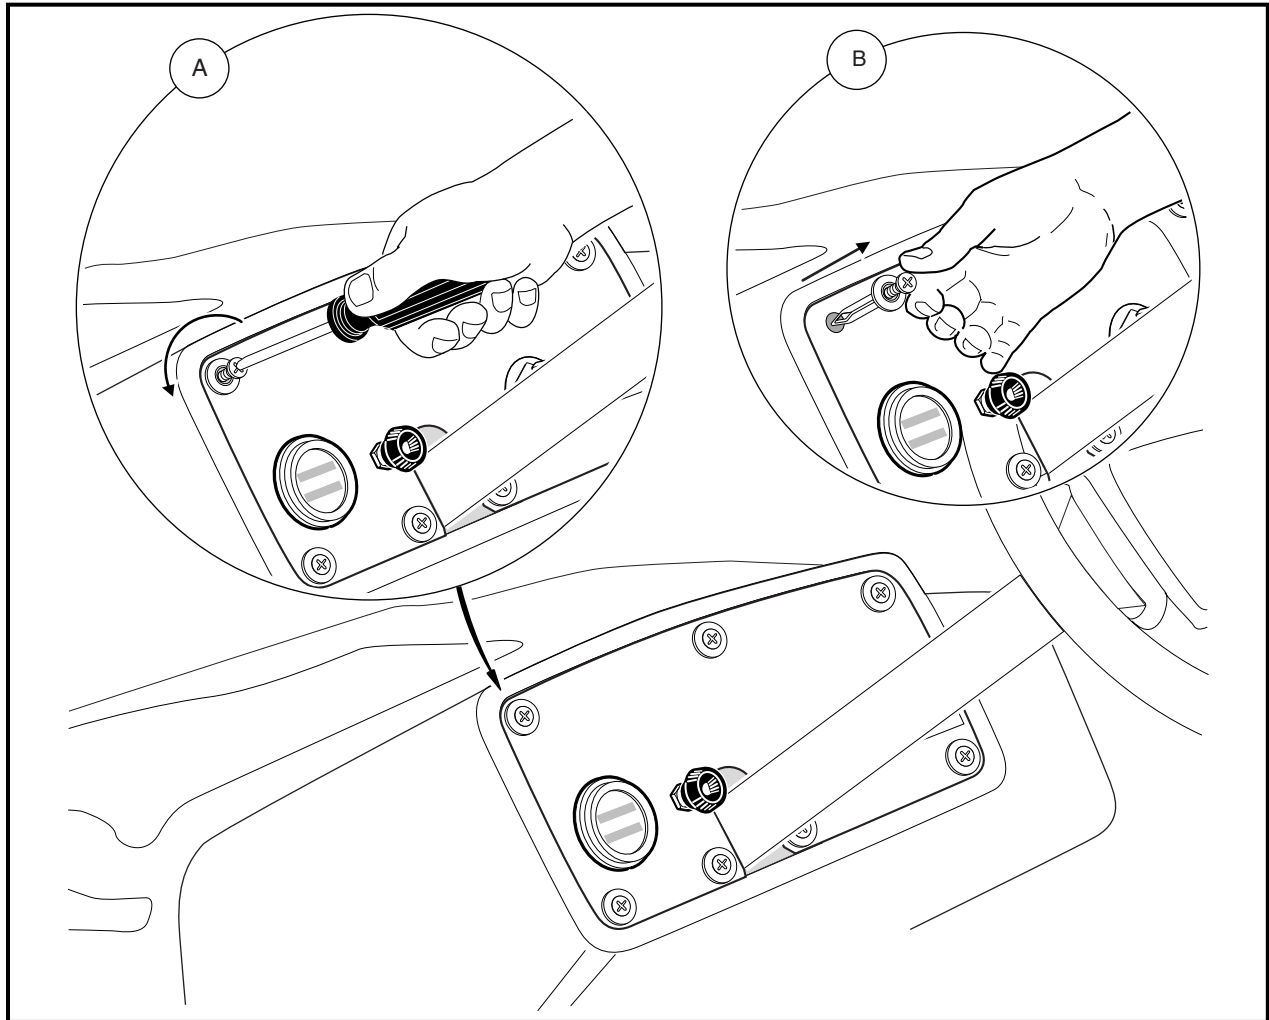

Figure 4-1 Dash Panel Removal
- 3.1. Loosen the seven Tuflok® screws shown in Detail A (**Figure 4-1, Page 4-3**).